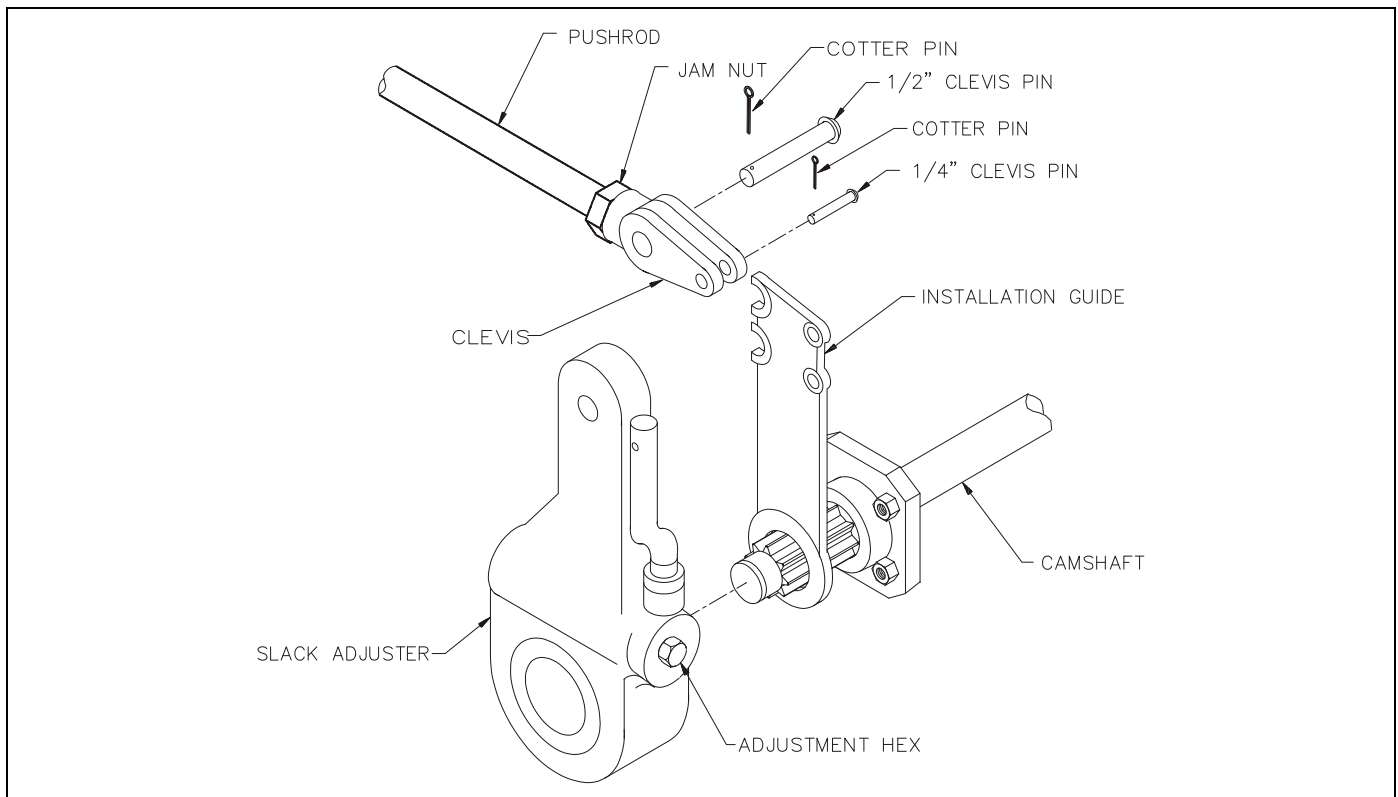

Figure 4-9: Slack Adjuster
4. Disconnect the slack adjuster from the connecting rod by removing the clevis pin (See Figure 4-9.)
3. Remount the brake unit on the axle brackets and reconnect the air service hoses and the slack adjuster connecting rod (See Figure 4-9.)
1. Block wheels to prevent vehicle from rolling (See **Figure 4-9.**)
1. Chock wheels to prevent vehicle from rolling. Release spring and service brake. Air chamber push rod must be fully released (**See Figure 4-9.**)